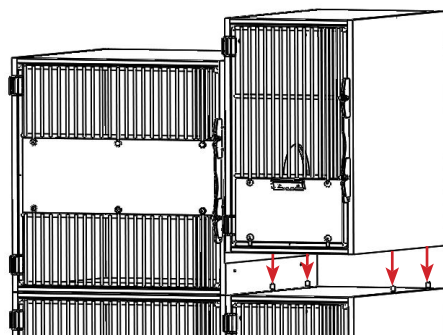

FIGURE 2.25 - Second Row Litter Unit
STEP 4: Carefully lift and align the component for the second row with the guide pins along the edge of the bottom row unit. The litter unit is used for these instructions, component placement may vary per order. See FIGURE 2.25